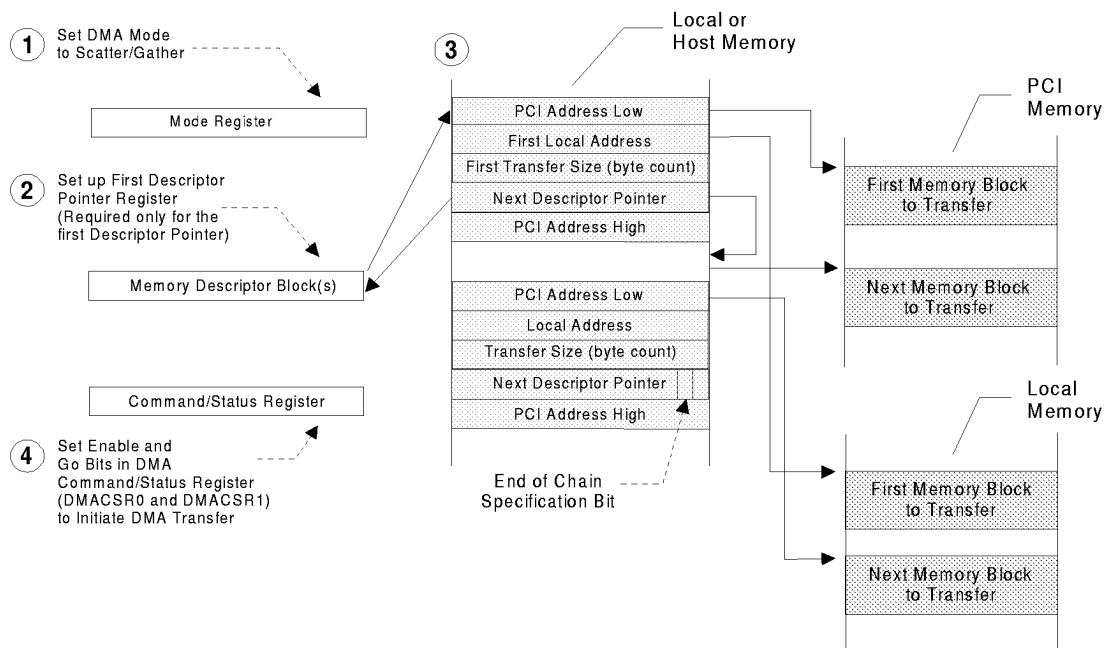

Figure 3-17. Scatter/Gather DMA Mode Descriptor Initialization [DAC PCI Address (DMAMODE0[18], DMAMODE1[18]) Descriptor Dependent]
- DMADAC0 and/or DMADAC1 contain(s) an 0x00000000 value. DMAMODE0[18] and/or DMAMODE1[18] is set to 1. The PCI 9054 performs a SAC five-Lword descriptor block load from PCI memory and DMA transfer with DAC on the PCI Bus. (Refer to Figure 3-17.)
- DMADAC0 and/or DMADAC1 contain(s) a non-zero value. DMAMODE0[18] and/or DMAMODE1[18] is set to 1. The PCI 9054 performs a SAC five-Lword descriptor block load from PCI memory and DMA transfer with DAC on the PCI Bus. The fifth descriptor overwrites the value of the DMADAC0 and/or DMADAC1 register. (Refer to Figure 3-17.)